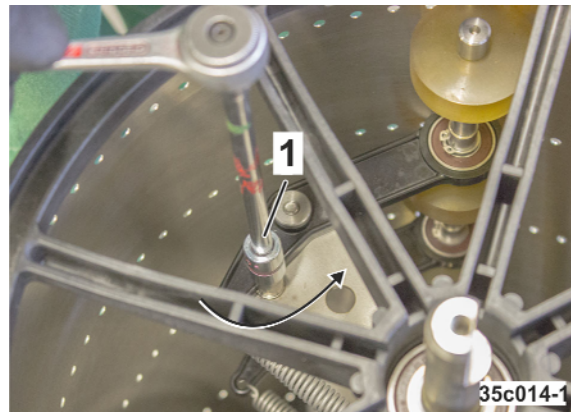

Fig. 333
3. Turn in the relief pins (Fig. 333/1) by approx. half a turn